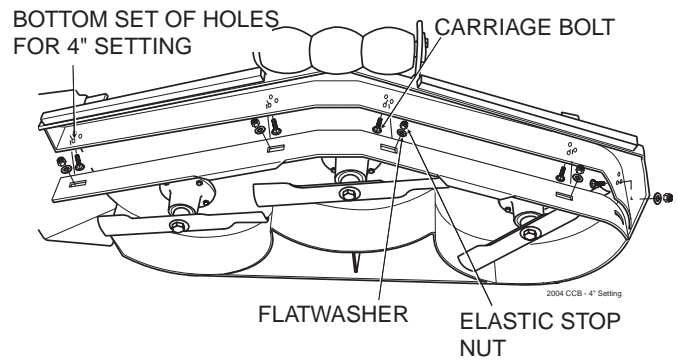

Figure 6-11. 4" Custom Cut Baffle Position
- C. 4" Position - baffle is installed using the bottom set of holes on the front baffle welded inside the cutter deck. (See Figure 6.11). Placing the baffle in the 4" setting will enhance fall cutting (leaf pickup) and reduce cutter deck "blowout".